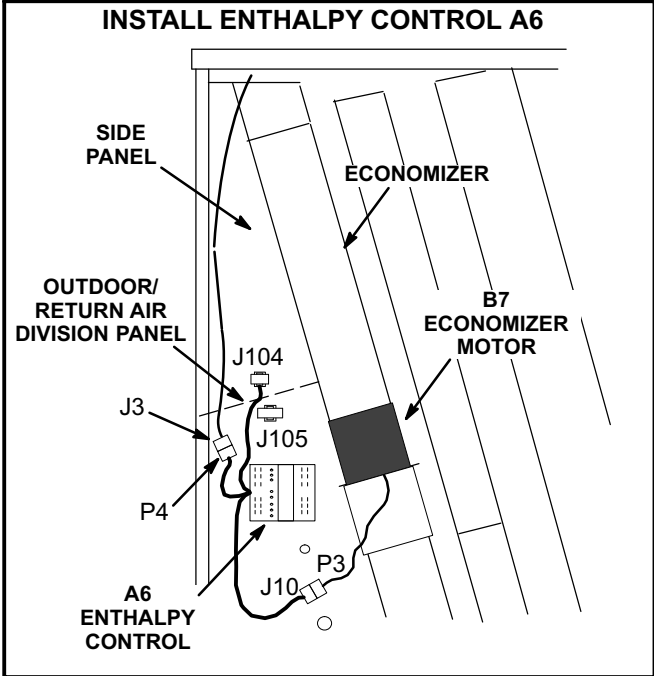

FIGURE 3
- 3- Insert 2-pin J104 jack from enthalpy control harness into opening on side panel and snap into place. See figure 3 for location of opening.
- 4- Connect 15-pin J10 economizer jack to P3 economizer motor plug as shown in figures 3 and 4.
- 2- Locate 15-pin J3 economizer jack harness hanging on left side of compartment. Disconnect P3 jumper plug from J3 and retain for future troubleshooting. Connect 15-pin P4 economizer plug on A6 enthalpy control harness to J3 economizer jack. Refer to figures 3 and 4. Enthalpy control harness is shown in bold.